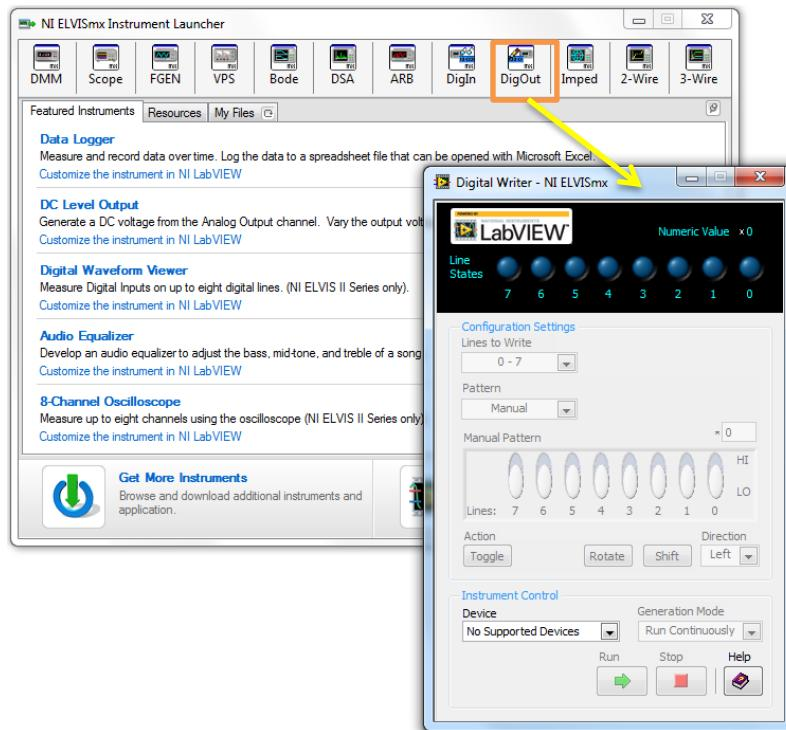

Figure 14: NI ELVISmx Instrument Launcher interface and Digital Writer (DigOut)
3. Testing Results of NAND Gate using Digital Inputs / Outputs using Digital Writer (DigOut), the detail image of Digital Writer is shown in Figure 14.